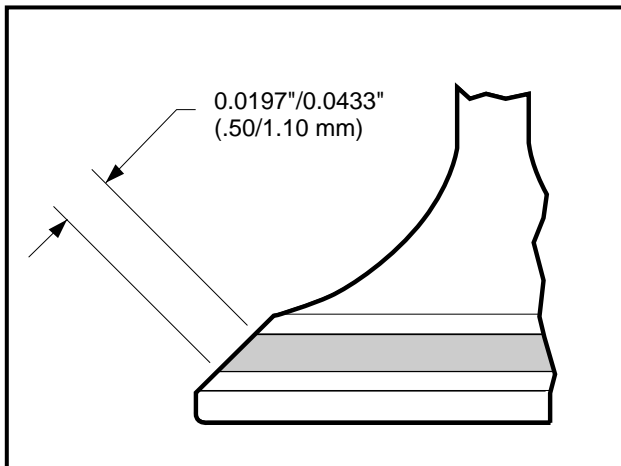

Figure 13-23 Check Mark on Valve Head
5. Pull the valve out, and check the mark on the valve head. It must be 0.0197 - 0.0433 inch (.50 - 1.10 mm) in width, and even all the way around the seat and valve (**Figure 13-23, Page 13-15**).